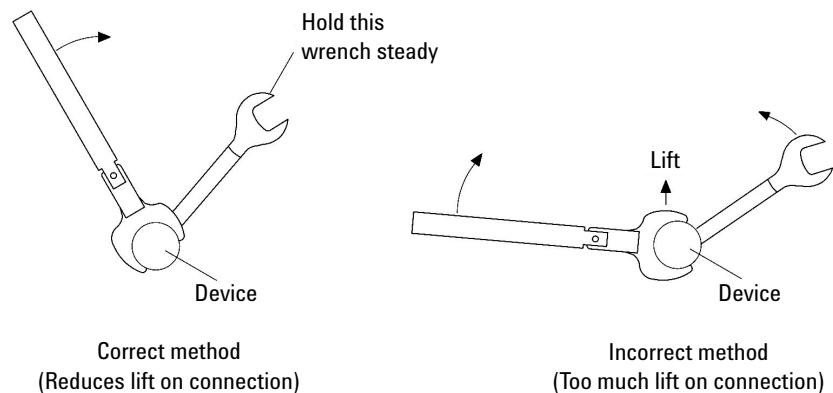

Figure 2-1 Wrench positions
- 3 Position both wrenches within 90 degrees of each other before applying force. Refer to Figure 2-1. Wrenches opposing each other (greater than 90 degrees apart) will cause a lifting action which can misalign and stress the connections of the devices involved. This is especially true when several devices are connected together.